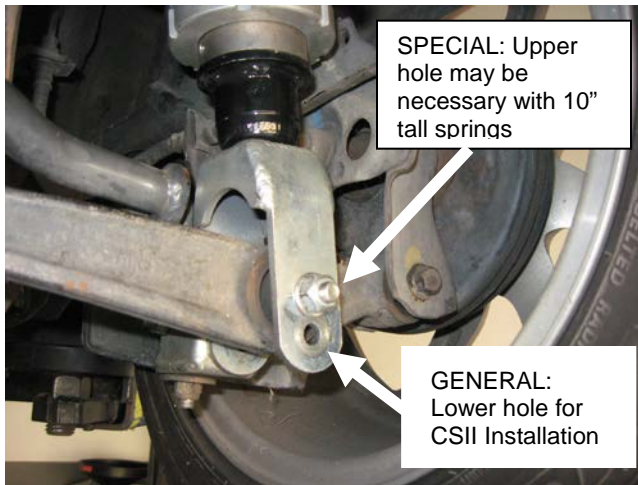

Figure 7
21. Install the rear coilover assembly into the vehicle, using the M10 x 80mm bolts for the lower mounts. On 1996-2000 models, the four clevis spacers shown in the illustration will be necessary. If using a 10" tall spring you may need to use the upper hole located on the lower mounts to achieve the lowered ride height desired. (Figure 7)